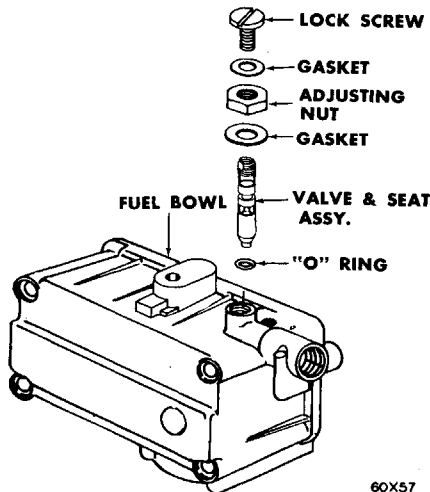

Fig. 9—Fuel Inlet Needle Valve and Seat (Exploded View)
- (13) Remove the float adjusting lock screw and gasket (see Figure 9).
- (14) Remove the needle valve and seat assembly, by turning float adjusting nut. Lift out needle valve assembly, then discard the "O" ring (refer to Figure 9).